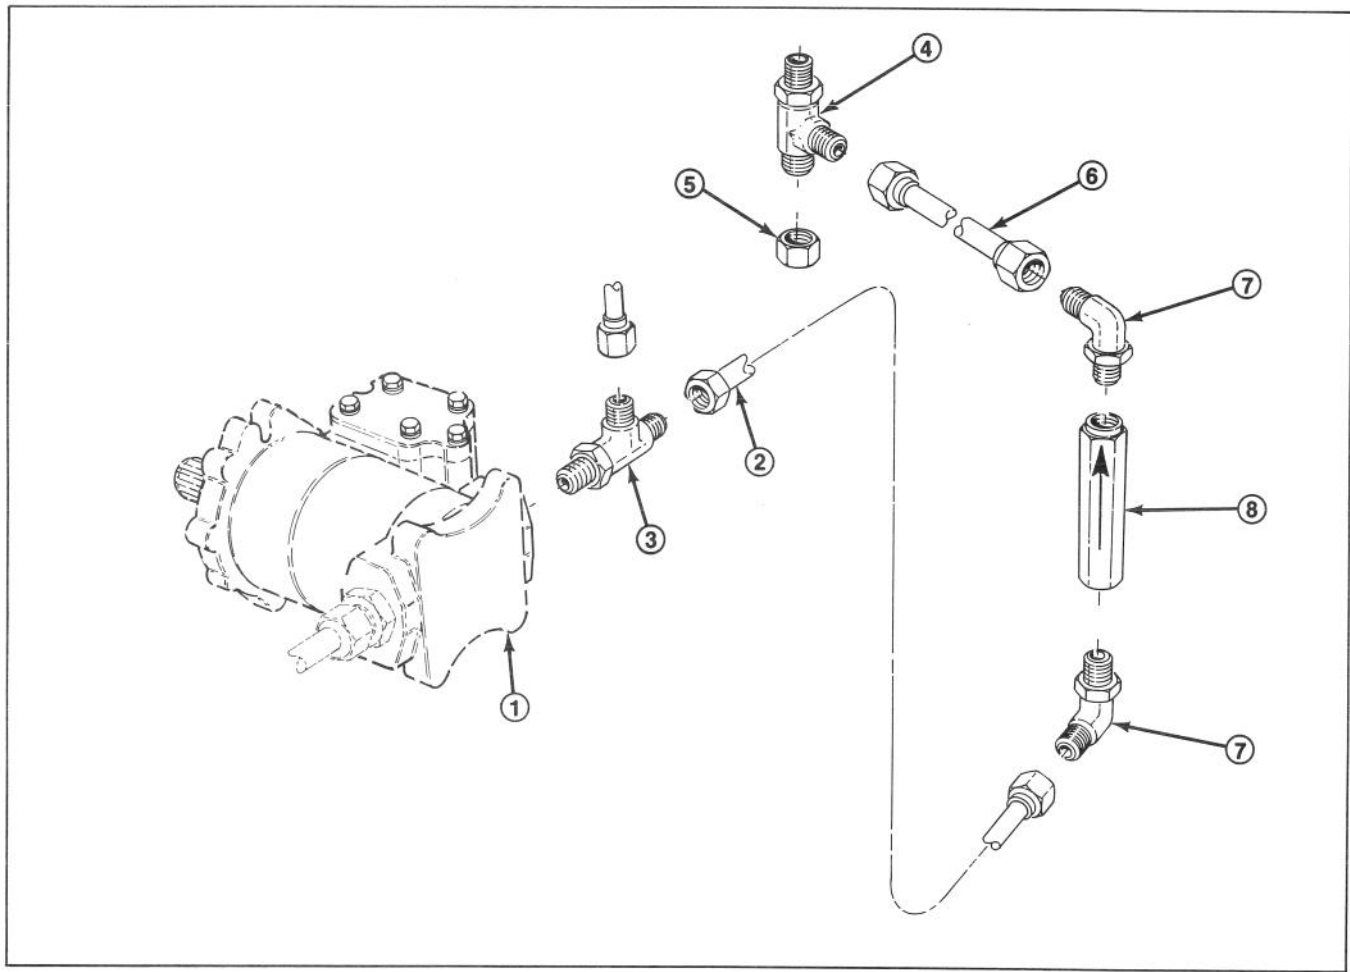

Figure 12
24. Install new short tube (Part No. 76-4450) to tee fitting secured to tank fitting (Fig. 12).
25. Mount an elbow fitting (Fig. 12) to bottom of check valve (supplied in kit) and tighten.
26. Loosely install another elbow fitting (Fig. 12) to top end of check valve. Do not tighten at this time.
28. Loosely secure bottom check valve fitting to new motor tee fitting with remaining tube (Part no. 76-4440) (Fig. 12). Tighten all fittings.